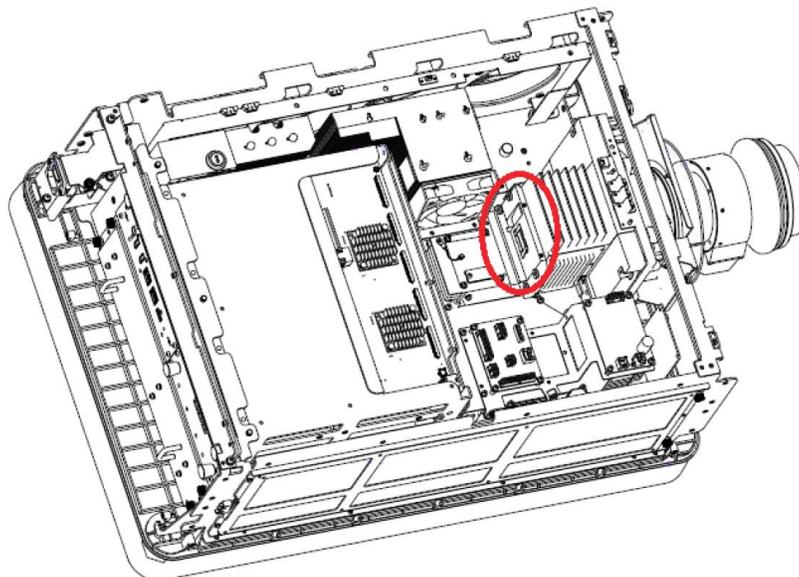

Figure 64:
Step 2: The convergence adjusting mechanism of the light machine is indicated by the Red circle in **Figure 64**. It can be adjusted by using the M3 Straight screwdriver.